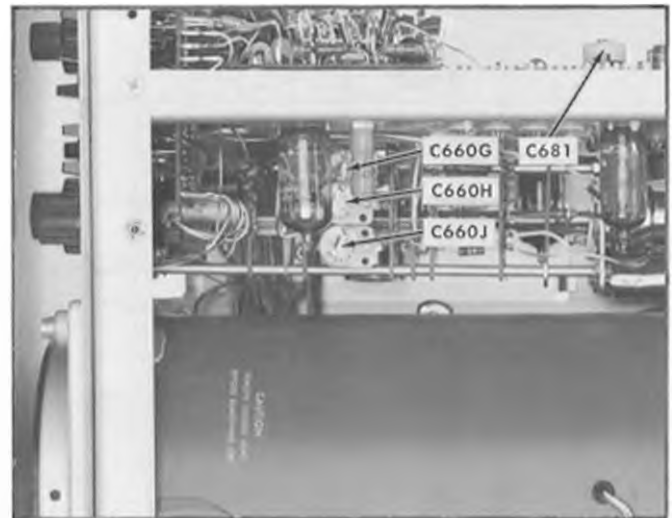

Fig. 6-45. Adjustment locations for A sweep timing, top view of Type 556.
h. Adjust C660G (Fig. 6-45) so that the 10th marker is fully intensified, and the Lower Beam display markers are positioned as in step (g).
m. Adjust C660H (Fig. 6-45) so that the tenth marker is intensified to the marker tip, and the delayed sweep display is positioned the same as in the 1.00 setting of the DELAY TIME MULTIPLIER dial.
r. Preadjust C660J (Fig. 6-45) for one 1  $\mu$ SEC marker/2 cm.
u. Preadjust C861 (Fig. 6-45) for one marker/cm.
- ab. Readjust C660J (Fig. 6-45) to position the eighth marker at the intercept point.
- ae. Readjust C681 (Fig. 6-45) for one marker per cm.